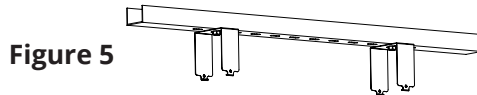

Figure 5
- Step1.** Mount the bracket on the rail or ceiling; **(Figure 5)**